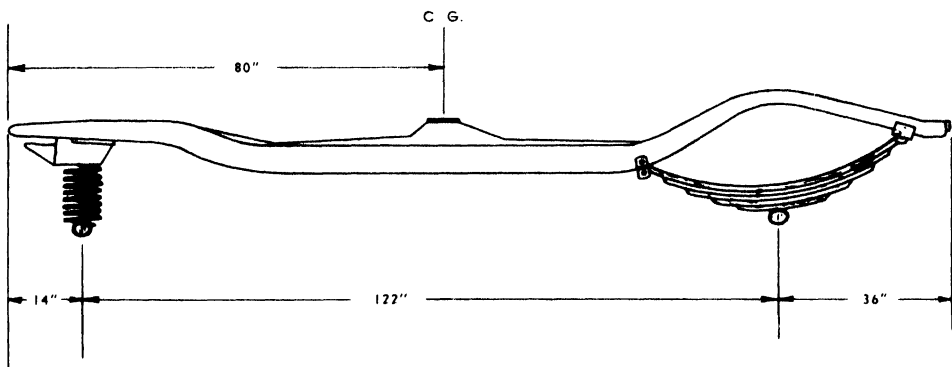

FIG. 228. AUTO FRAME AND PARALLEL FORCES.
2. Find the weight supported by the front and rear wheels of a car weighing 2700 pounds, using the dimensions given in Fig. 228.